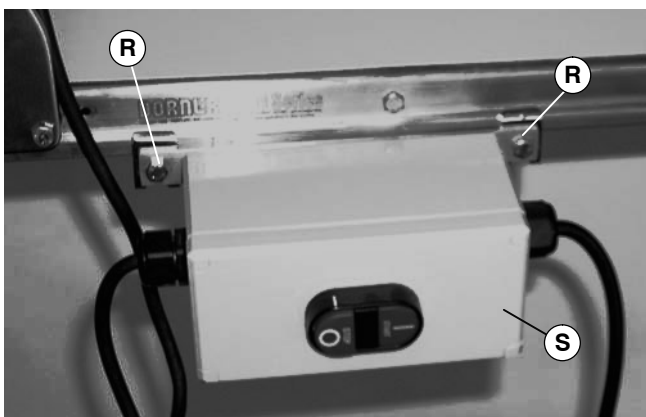

Figure 17
2. Attach motor starter (S of Figure 17) with clips to conveyor. Tighten screws (R) to 92 in-lb (10.4 Nm).